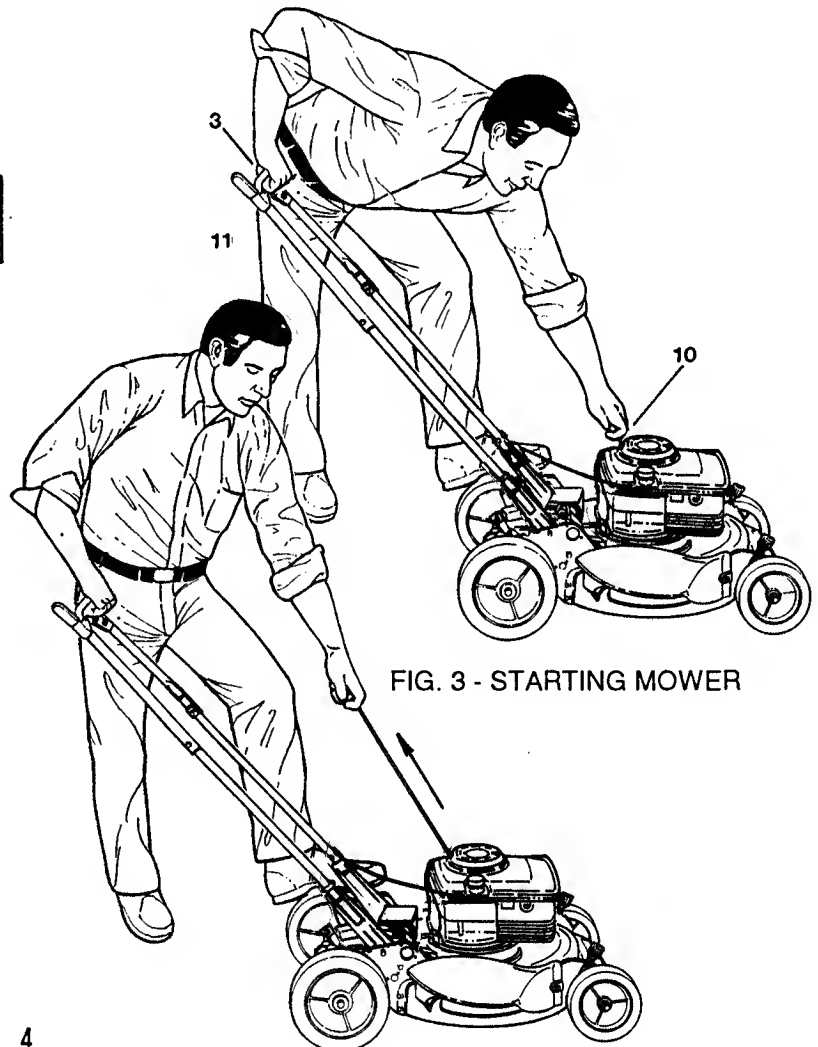

FIG. 3 - STARTING MOWER
2. Hold **BLADE CONTROL** (3) firmly against **UPPER HANDLE** (11) - otherwise the engine will not start! Refer to FIG. 3.
4. Bend at the waist to reach **ROPE START HANDLE** (10), then straighten up as you pull the handle - using back muscles more than arm muscles.